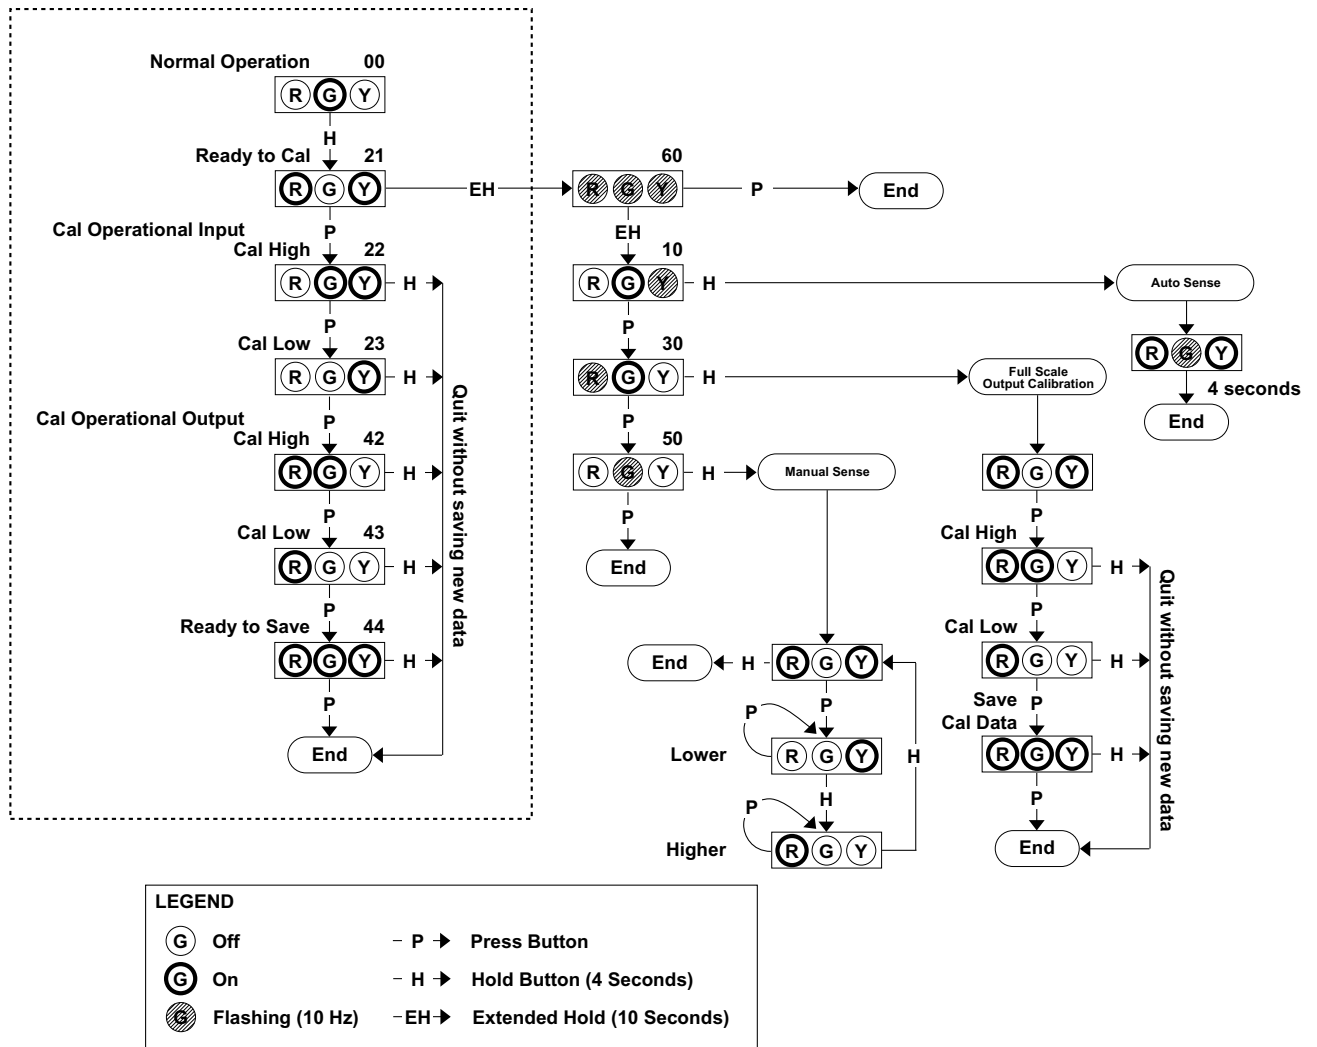

Figure 3: WV478 Calibration Flowchart
1. Connect the input to a calibrated frequency source and the output to a voltage or current meter. Apply power and allow the system to reach thermal equilibrium. Refer to Figure 3 for a detailed flow chart of the procedure. The section in the dotted-line box is all that is required for the user to calibrate operational input and output, and is all that is described in this procedure.